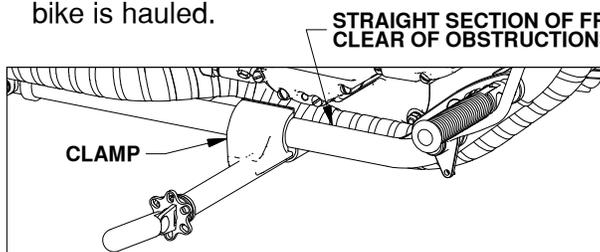

Figure A1: Clamping bar on bike frame.
1. **Identify clamping bar location:** The clamping bar is designed to clamp around the horizontal portion of the bike's frame below the engine and transmission with the handle on the right side of the bike. See Figure A1 for example. The bar should be clamped where: